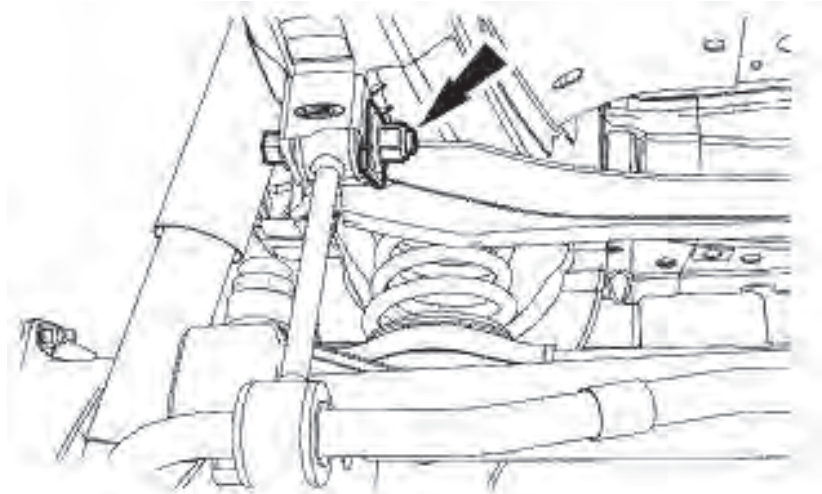

fig. 2
1. Disconnect the stabilizer bar from the chassis (Fig. 2).